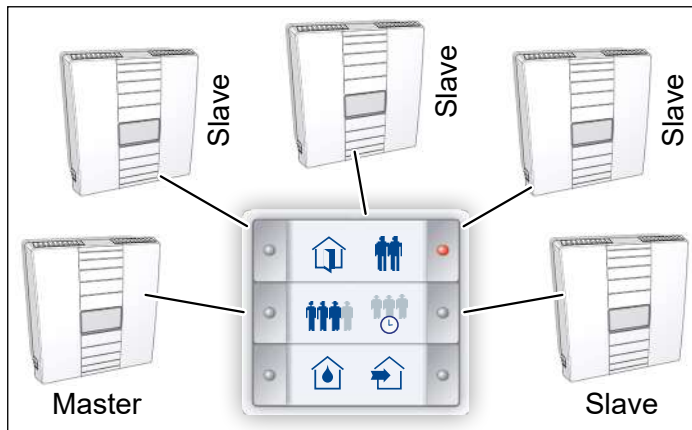

Fig. 30: Connecting the ventilation units in a star configuration
- If possible, the control cables should be arranged and connected in a star configuration (see Fig. 30) from the ventilation units to the InControl pushbutton sensor.